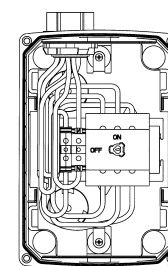

Figure 2
- Select the correct wiring diagram from wiring diagram chart and wire switch as illustrated, making sure to provide condensation drip loop as shown in Figures 2 and 3. Insert stripped cables fully into terminal openings, tighten terminal screws per Table 1.